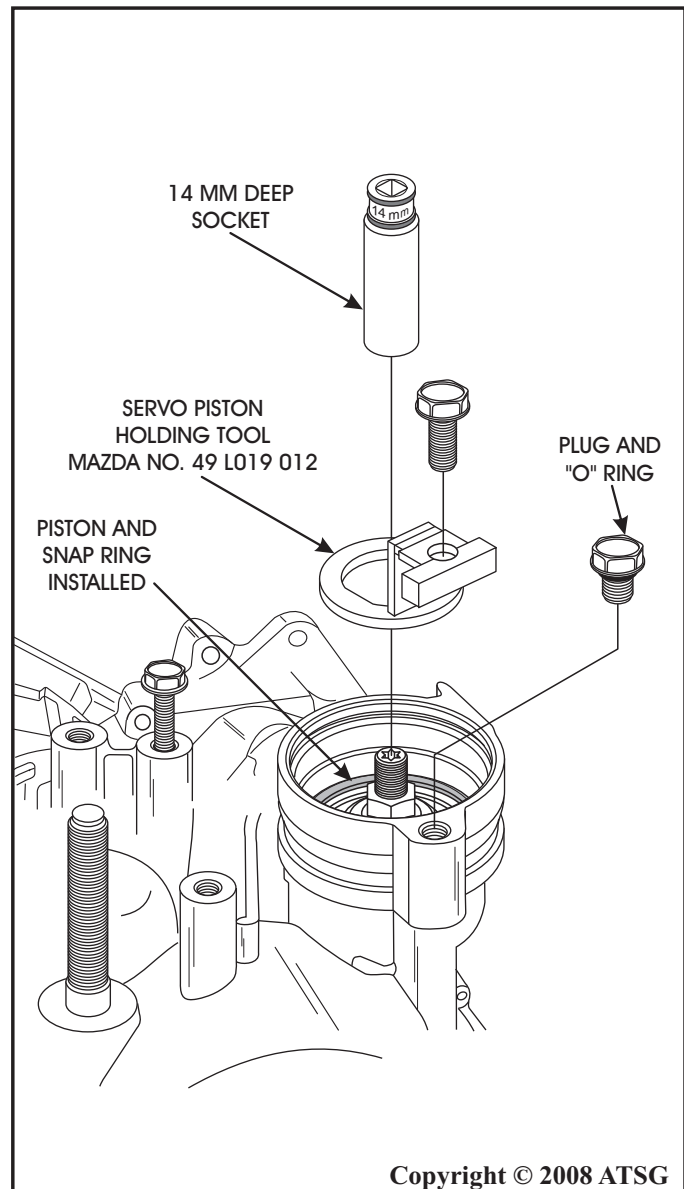

Figure 132
2. Compress the reduction servo piston assembly and install retaining snap ring with flat side facing down, as shown in Figure 132.
3. Remove the pressure plug and "O" ring from transaxle case, as shown in Figure 132.
4. Install the factory servo piston holding tool, as shown in Figure 132.